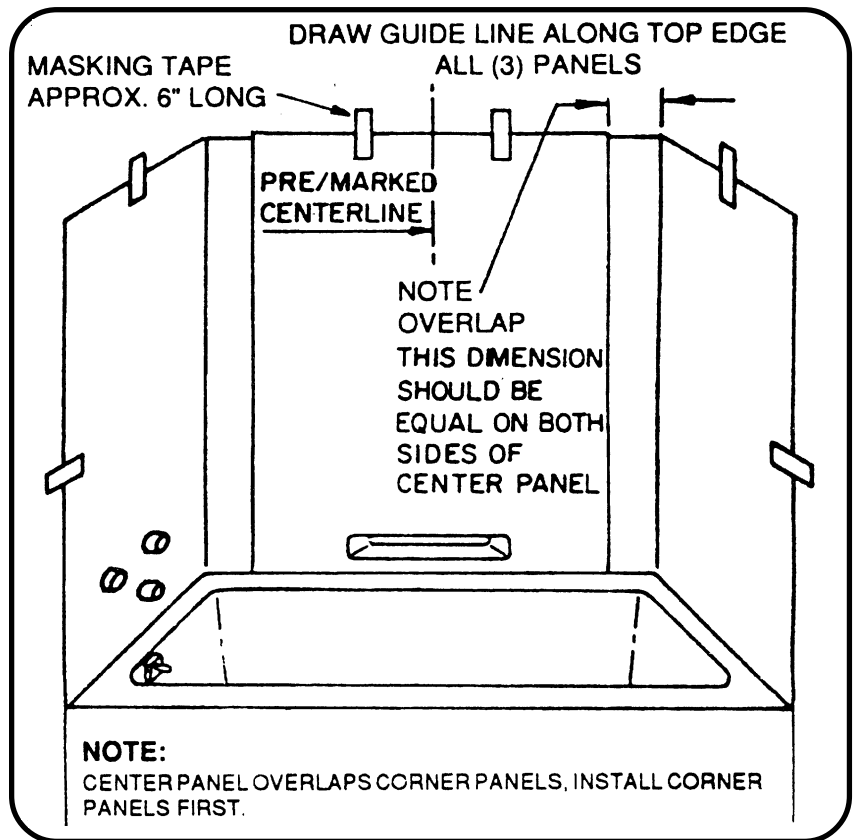

FIG. 3
3. Set **Corner Panels** in place, resting bottom edges on bathtub rim, temporarily tape panels in place. Place **Center Panel** against backwall, also resting bottom edge on bathtub rim. Align previously marked center lines and check for equal overlap on each **Corner Panel**. Draw a light grease pencil line along top edge of **Center** and **Corner Panels** - this will be your reference when you permanently install panels. Remove panels from alcove, remove masking tape and clean top edges with mineral spirits to remove any excess grease pencil. **DO NOT** remove centerline mark from **Center Panel** at this time. See Fig. 3.